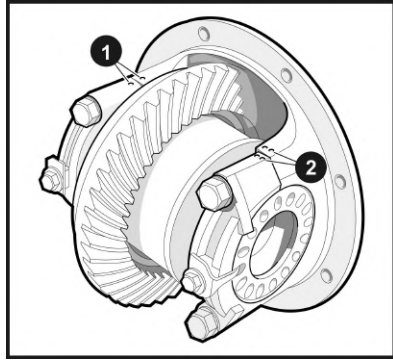

Fig. 2
1.7 Using a center punch, mark the bearing caps for identification. Make the punch marks on the bearing caps and on the adjacent surface of the differential carrier housing. Apply one punch mark (1) on one side and two punch marks (2) on the opposite side, as shown in **Fig. 2**.